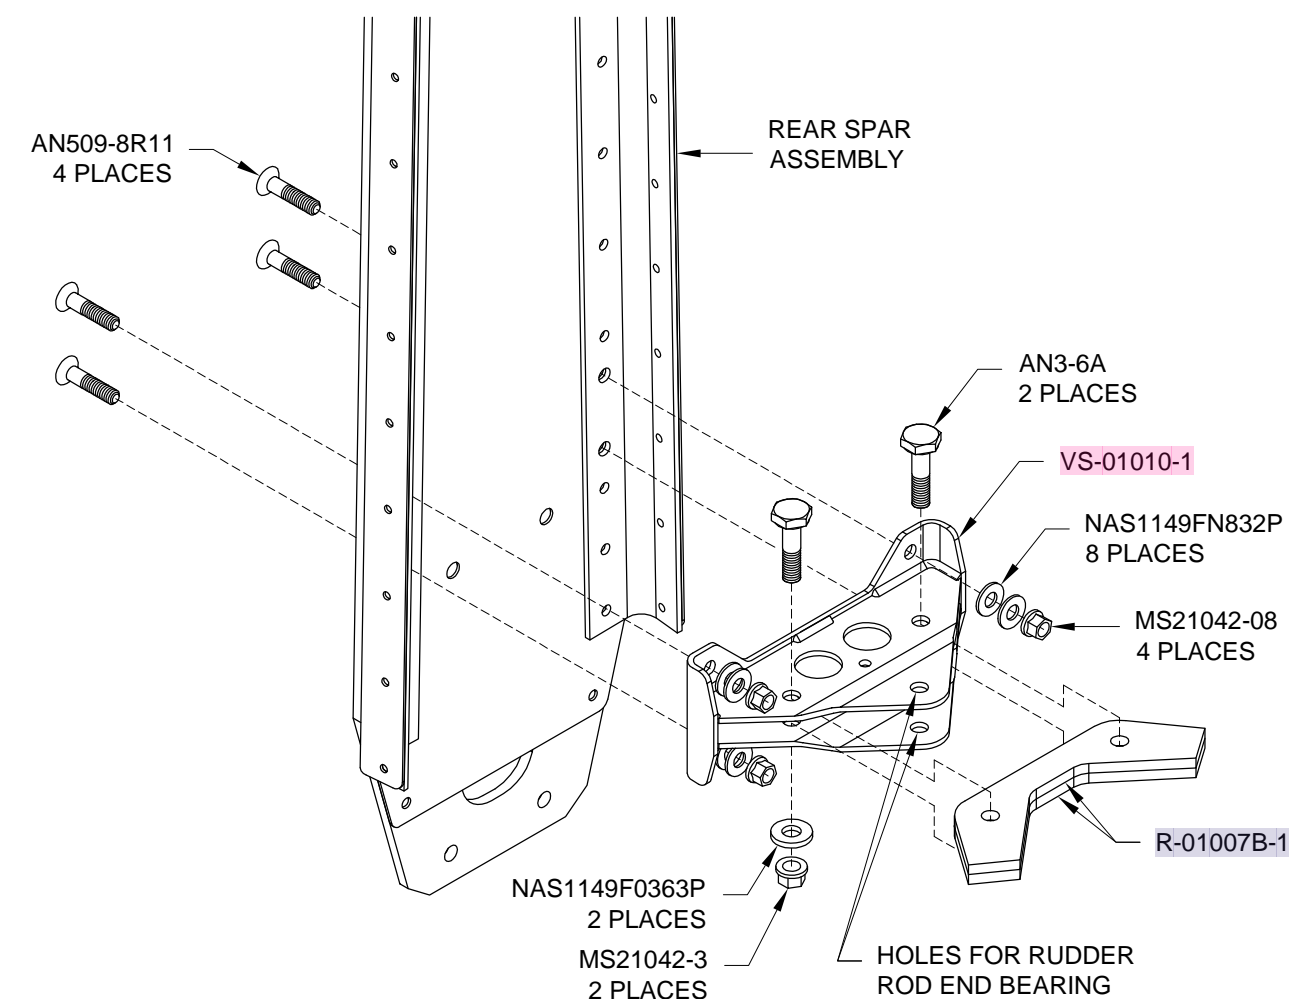

**FIGURE 1: RIB RIVETS**
Step 1: Attach the parts shown in Figure 1 using the rivets called out. Leave the VS-1004 Bottom Inspar Rib and the VS-1005 Bottom Nose Rib clecoed to allow removal for access to the interior.